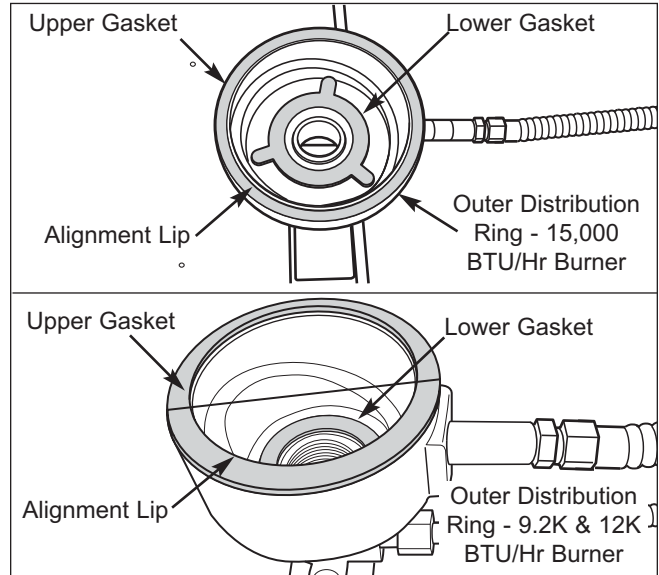

Figure 4. O-Ring Replacement
1. Replace burner gaskets as shown (See Figure 4). The outer distribution ring's o-ring has a thinner cross section.
2. Install the cooktop pan in place over the outer distribution rings. Make sure the correct spark electrode wires are pulled up through the appropriate burner locations (See Figure 4).
3. Place the gasket in the inner distribution rings. These gaskets are thicker have a larger cross section and will have a slip fit into the inner distribution rings to hold them in place during installation (See Figure 4).